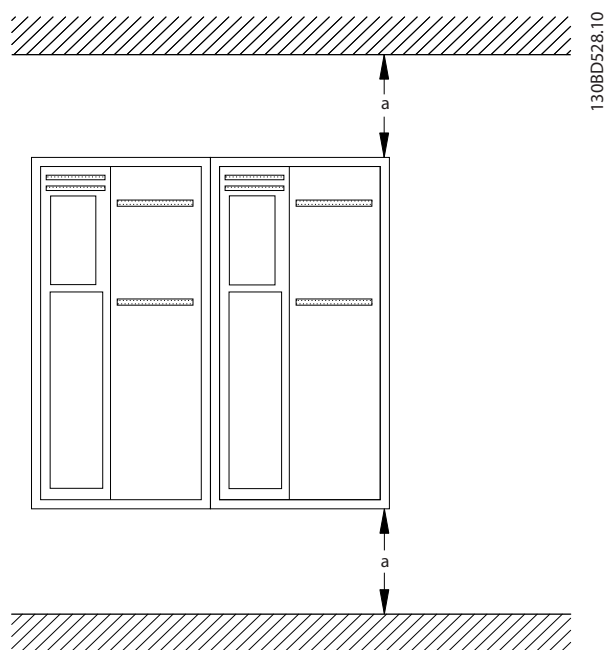

Figure 3.2 Top and Bottom Cooling Clearance
- Ensure that top and bottom clearance for air cooling is provided. See *Figure 3.2* for clearance requirements.